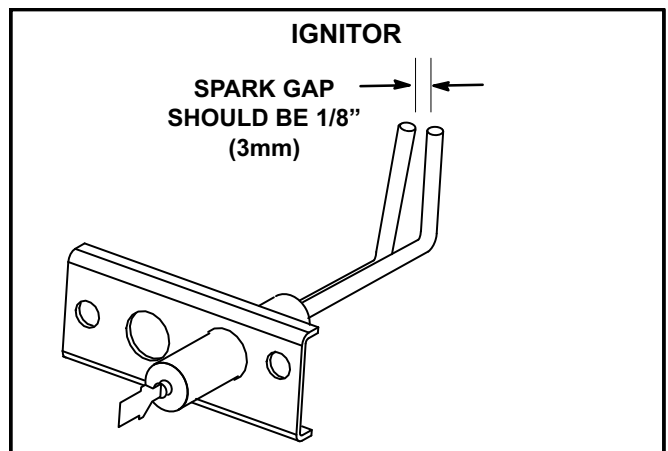

FIGURE 6
- 6- Remove and retain the two screws securing the ignitor to the burner support. Remove the burner and check the spark gap with appropriately sized twist drills or feeler gauges. See figure 6.